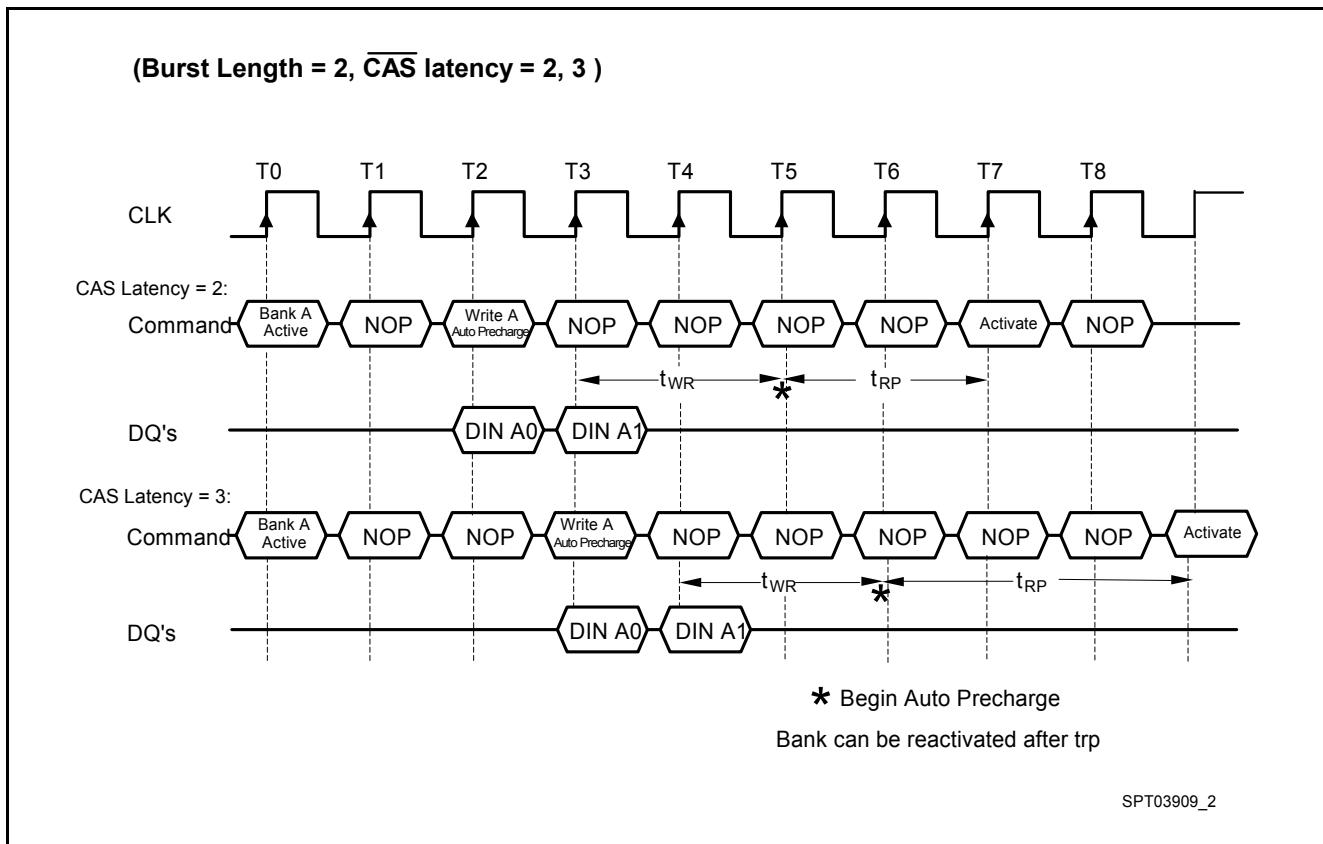

Figure 14 Burst Write with Auto-Precharge
- Figure 14 Burst Write with Auto-Precharge